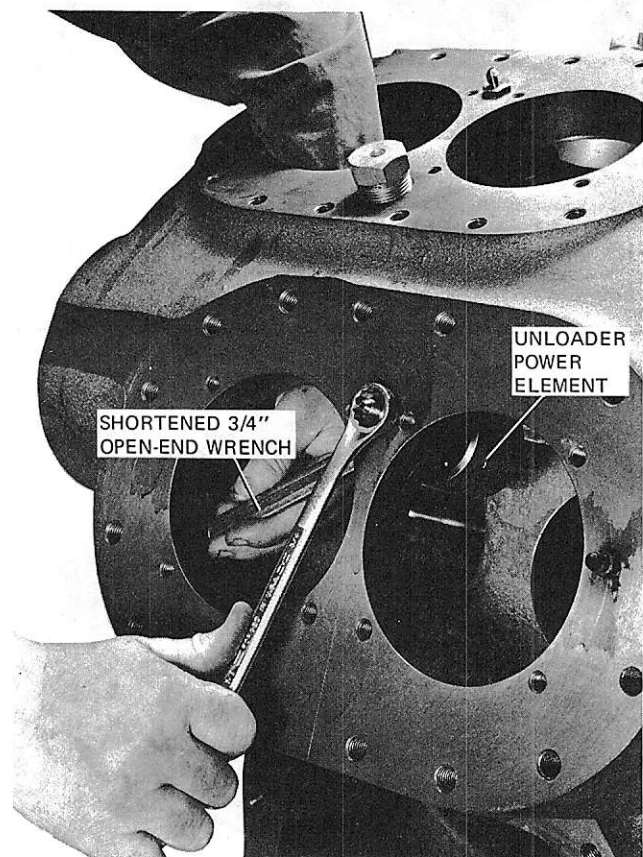

FIG. 32 — INSTALLING UNLOADER POWER ELEMENT
3. The unloader power element can now be removed as shown in Fig. 32. A 3/4" wrench, cut off as shown, will facilitate removal.